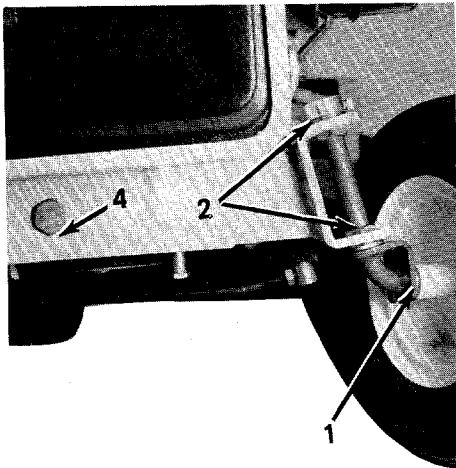

Figure 10.
1. **Front Wheel Bearings (4).** Lubricate with SAE 30 oil once a season or after every 25 hours of operation. (See figure 10.)
2. **King Pin Bearings (4).** Lubricate with SAE 30 oil once a season or after every 25 hours of operation. (See figure 10.)
4. **Pivot Bolt.** Lubricate with SAE 30 oil once a season. (See figure 10.)